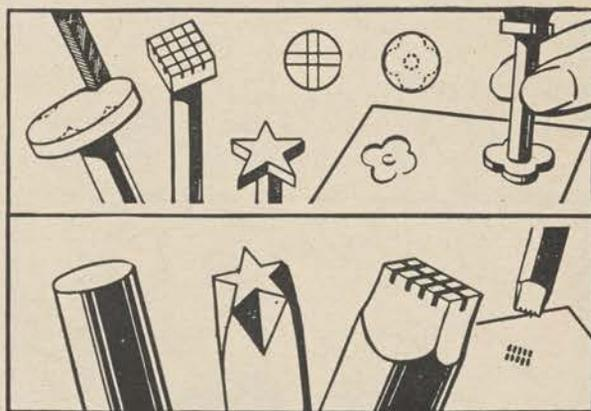

Figure 9.
c. To make embossing tools for leather, wood or metal, file the designs in the head of the heavy nail (fig. 9). The threaded end of a large bolt may also be filed in the same manner and makes a more substantial tool.